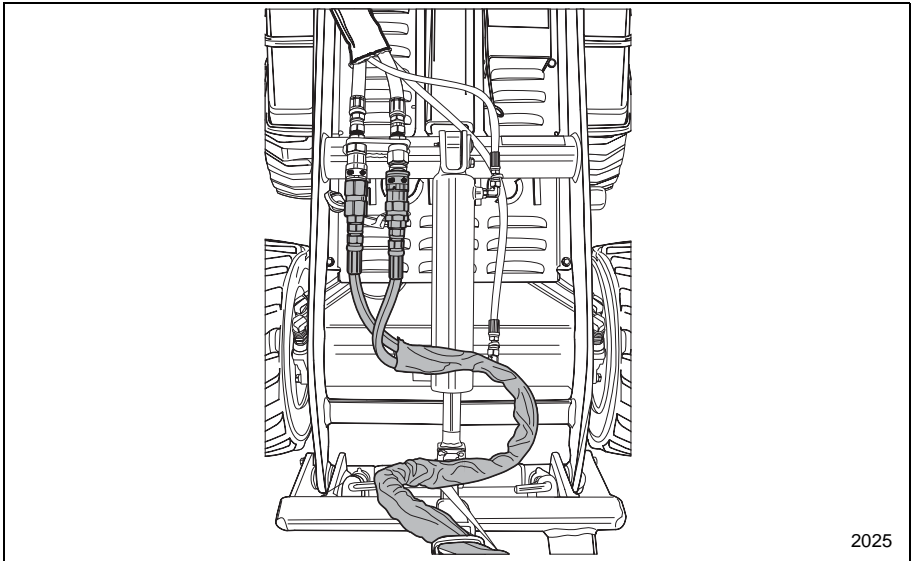

Figure 1-7 Attachment Hydraulic Hose Routing
12. Make sure that the hydraulic hoses are routed so that they will not be in the way or damaged during machine operation. **Figure 1-7** shows how the hoses might be routed to keep them out of the way during operation and prevent them from being damaged.